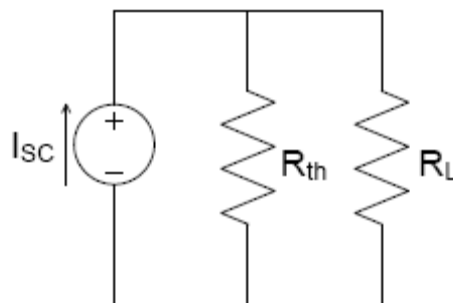

Figure 5
- Build the circuit shown in Figure 5 with the appropriate values of I_{sc} and R_{TH}